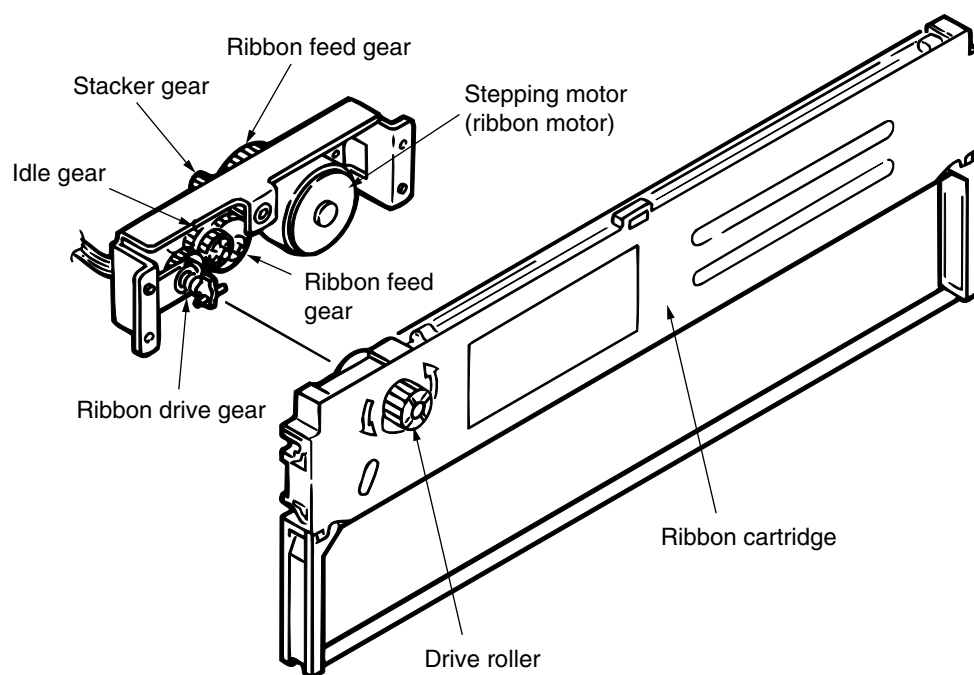

Figure 12-6 Ribbon Feed Mechanism
12.3.3 Ribbon feed mechanism and operation (See Figure 12-6)